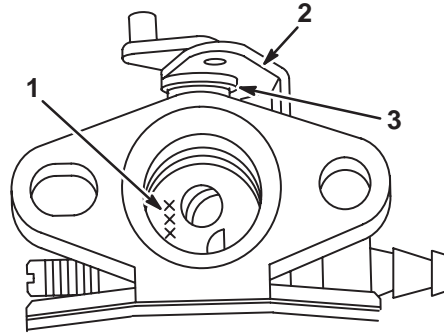

Fig. 27 – Installing Throttle Shaft
3. Lay throttle plate on shaft with numbers facing out and install screw, Fig. 27. Use a new patchlock screw, or use Loctite to secure screw in place.